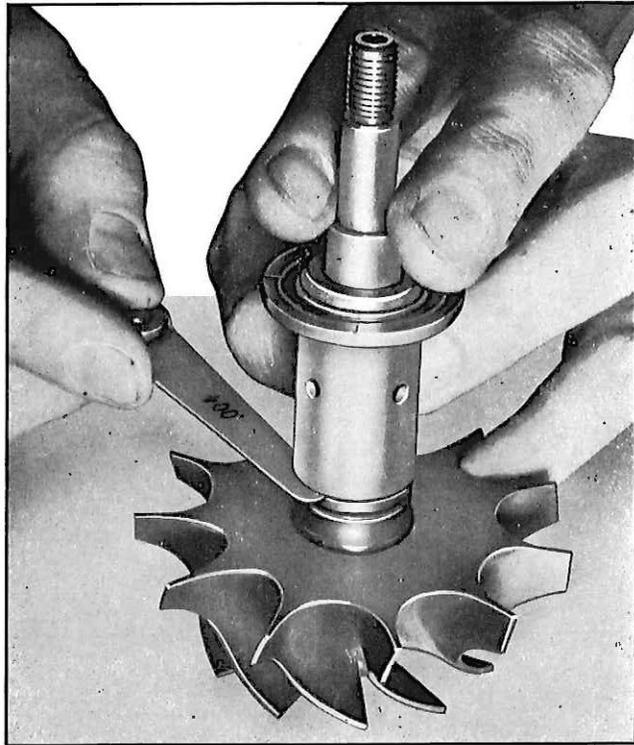

Fig. 27—Measuring Bearing-to-Shaft End Play
- b. Hold the mating ring against the shoulder on the turbine shaft, then hold the bearing up against the mating ring and measure the clearance between the bearing and lower shoulder of the shaft using a feeler gauge (fig. 27).